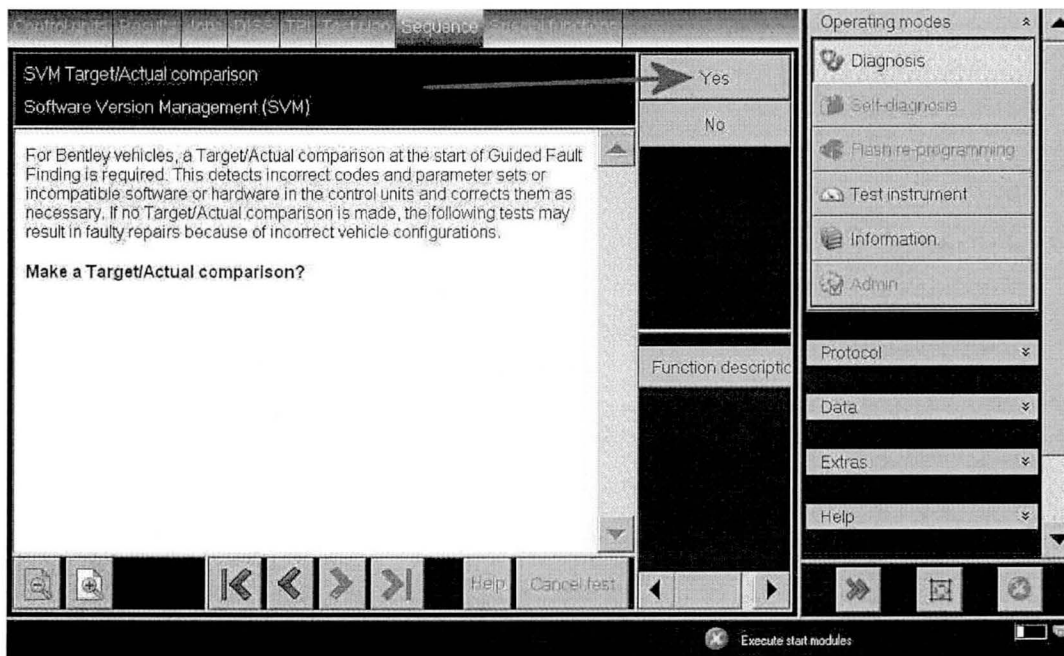

Figure 9
19. When the *Guided Fault Finding* sweep has completed, when prompted to **Make a Target/Actual Comparison** you must Select **Yes** (Figure 9)